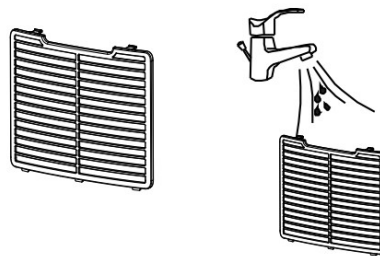

Fig. 2
2. Gently clean the filter with a vacuum cleaner to remove dust. If necessary, wash the filter with warm soapy water **DO NOT USE ALCOHOL, BENZENE OR OTHER AGGRESSIVE PRODUCTS** (Fig. 2).